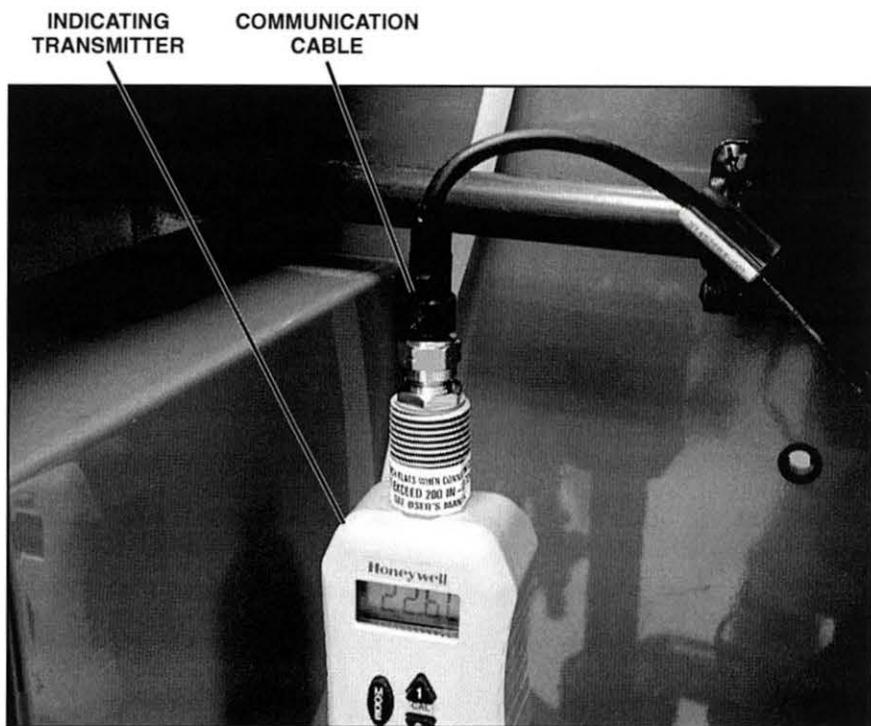

Figure 42. Communication Cable Connected to Indicating Transmitter
- 8. Locate the communication cable for the indicating transmitter and connect it to the port on top of the indicating transmitter, as shown in figure 42.